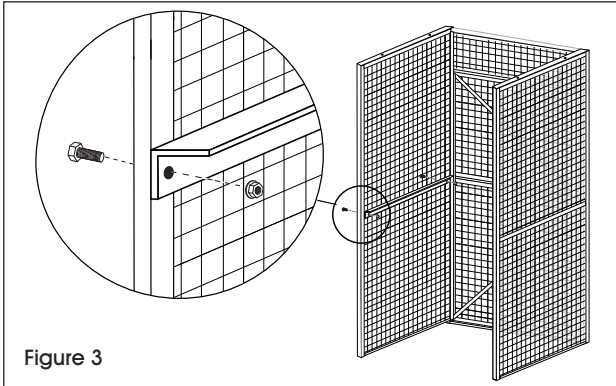

Figure 3
4. Bolt shelf rail at middle level to inside of side panel outer flange using two longer carriage bolts and two nuts. Shelf rail will have flush side facing up. Repeat step on opposite side panel (See Figure 3)